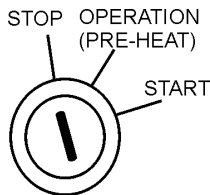

Figure 51. Ignition (Switch Normal)
3. Place the ignition switch (Figure 51) in the “**STOP**” position, remove the key and store in a safe place.